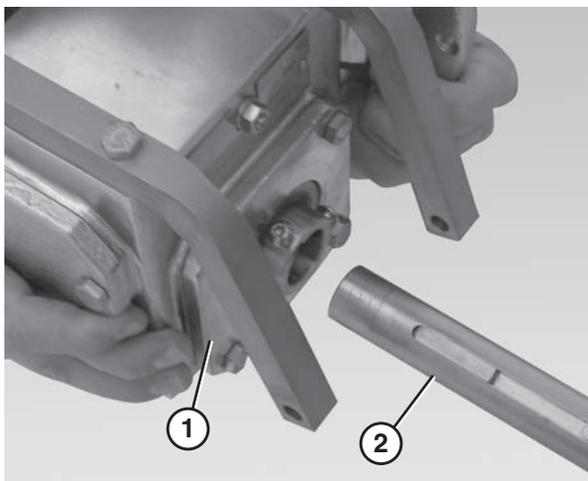

Figure 66
11. Slide the gear reducer (**Figure 66, item 1**) off the drive shaft (**Figure 66, item 2**).